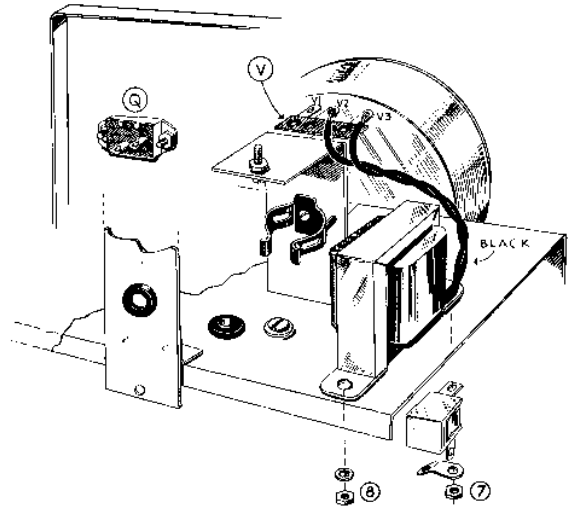

Fig. 3
- () Step 6. Fasten the 3 lug terminal strip to the Z bracket by means of a 6-32 screw, lockwasher and nut. See Figure 3.
- () Connect one red lead of the power transformer to A1 (S).
- () Connect the other red lead to D1 (NS).
- () Twist together the two yellow leads and connect one to H7 (NS).
- () The other yellow lead goes to H2 (NS).
- () Twist together the two black leads and connect one to V2 (NS). See Figure 3.
- () The other black lead goes to V3 (NS).
- () Run a wire from A2 (NS) to G1 (NS).
- () Connect a 22K resistor between D1 (S) and the solder lug in location A (NS).
- () Connect a 15K resistor between A2 (NS) and the solder lug in location A (S).
- () Connect the positive lead (marked positive or with +++) of a 16 MFD condenser to A2 (S) and the other lead to D2 (NS).
- () Run a short bare wire jumper from G1 (S) to G6 (S). Keep this jumper far enough from the pin socket holes so that it will not interfere with the tube pins when the tube is plugged in.
- () Connect a piece of bare wire to G4 (NS), run it through G5 (NS), and connect it to the nearby ground lug on socket H (S).
- () Connect a 10 Megohm resistor between G7 (S) and G5 (S).
- () Run a wire from G9 (NS) to H7 (S).
- () Run a wire from G3 (NS) to J2 (NS).